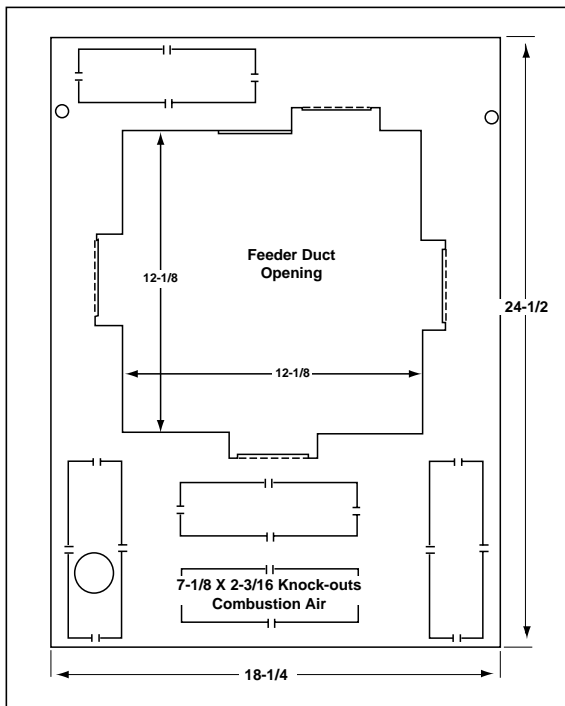

Figure 4. MA-100 Universal Base, Bottom Panel
The MA-100 base is designed primarily for replacement installation of the CMF series furnace where the manufactured home duct system may be small and restrictive to proper air flow. The MA-100 base provides approximately four (4) inches of additional plenum space before the discharge air enters the manufactured home duct system. (See Figures 4 and 5)